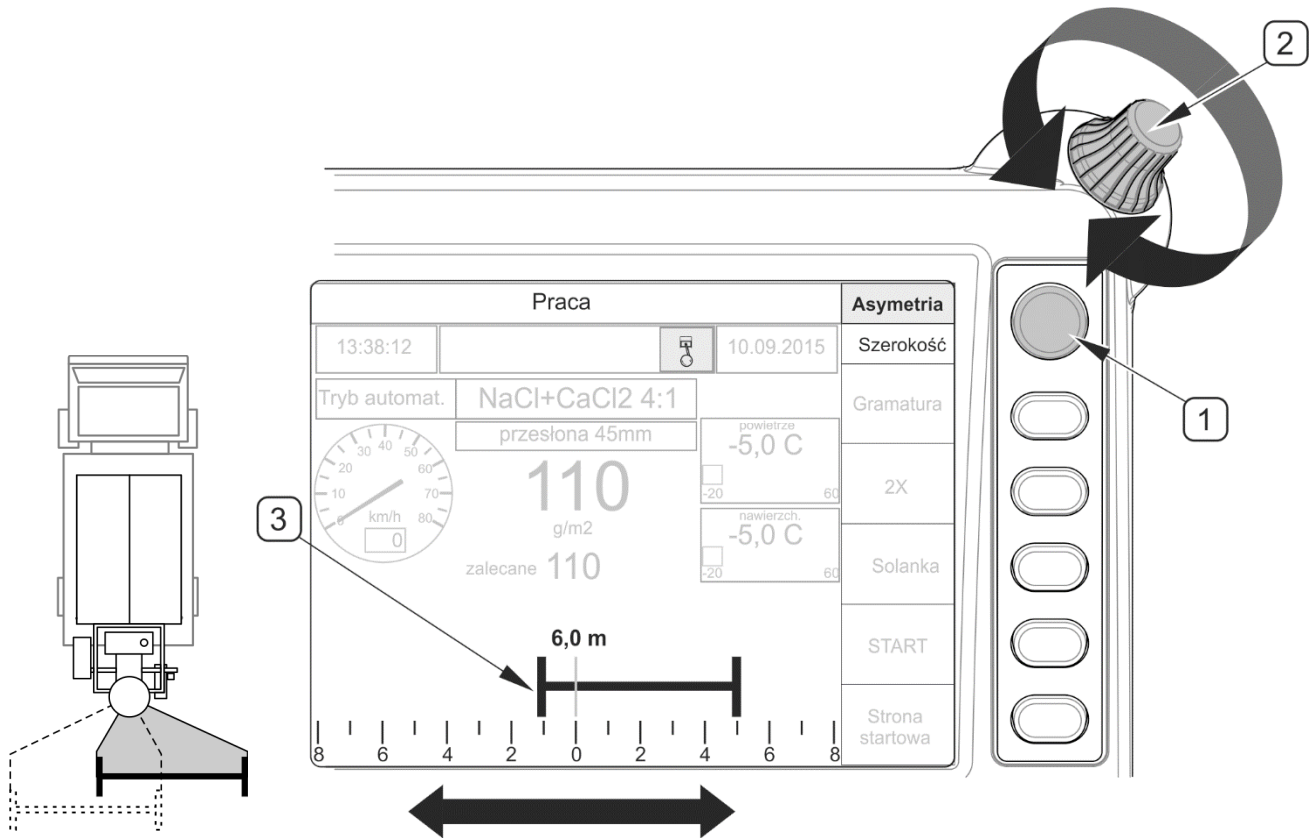

FIGURE 4.27 Changing asymmetry of spreading
Spreading width is changed from the operator cab, on control panel working page ("OPERATION"). To change spreading width (FIGURE 4.27):
- highlight "Width" function by means of push-button (1),
- turn knob (2) to set a required width (3) from 2 m ÷ 12 m.
To change asymmetry of spreading, highlight "Asymmetry" field on working page "Operation" by means of push-button (1). Turn knob (2) to move current spreading width to the right or to the left (FIGURE 4.27).